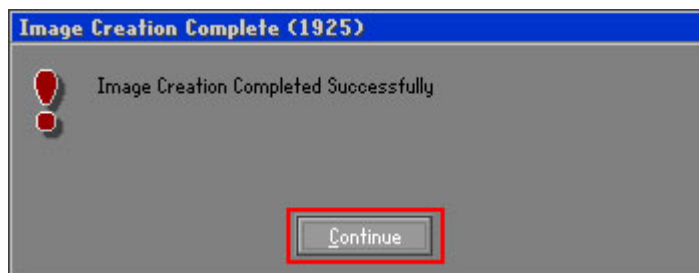

Figure D-20: Image Creation Complete
Step 11: When the image creation completes, a screen prompts as shown in **Figure D-20**.